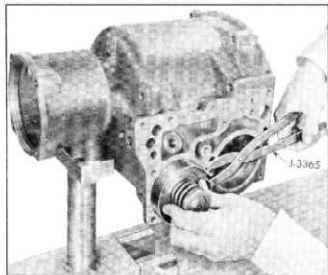

Fig. 124—Installing Reverse Servo Piston
2. Install reverse servo piston using ring compressor J-3365 (fig. 124). Notch on shaft should be positioned toward front of transmission case.